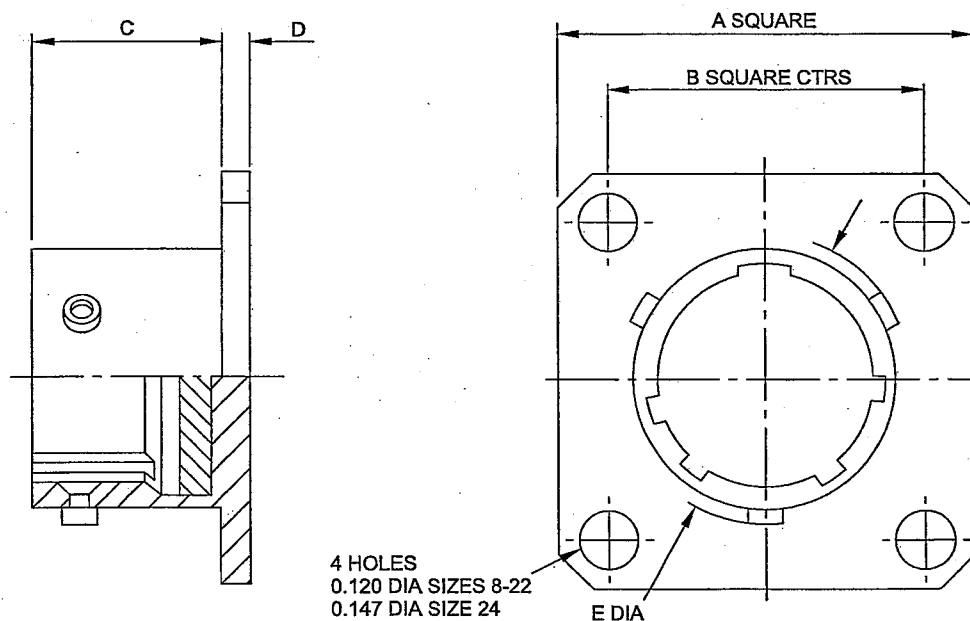

Fig 28 Dummy storage receptacle, dimensions
18.2 Details of the normal oriented dummy receptacles which conform to MS3115 are given in Fig 28 and Table 17.